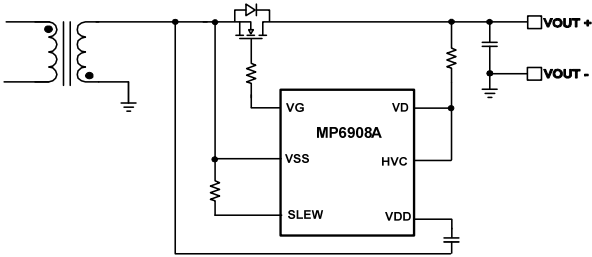
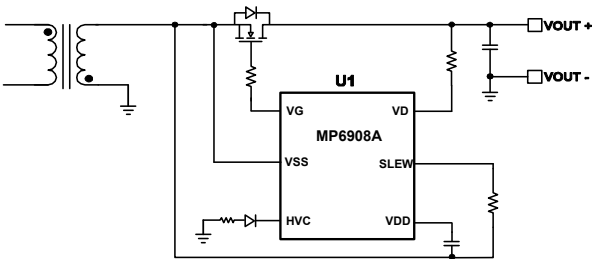
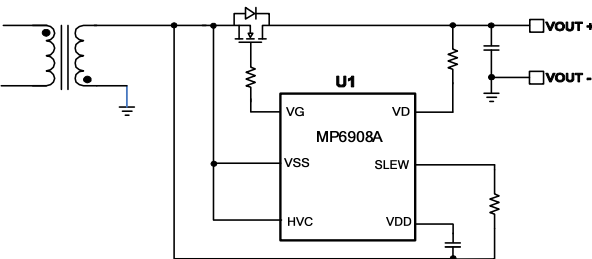

Figure 6: High-Side Rectification, VDD Regulated at 9V
Figure 7: High-Side Rectification, VDD Regulated at 9V
Figure 8: High-Side Rectification, VDD Regulated at 5V
If the MP6908A is used for high-side rectification, a self-supply can be achieved three ways (see Figure 6, Figure 7, and Figure 8).
Figure 6 shows HVC connected to VD. Here, VDD is generated and regulated at 9V.
Figure 7 shows HVC connected to the secondary ground through an external diode. Here, VDD is generated from HVC and regulated at 9V. The maximum voltage at HVC can be calculated with Equation (2):
Figure 8 shows HVC shorted to VSS. VDD is generated by V_{DS} and regulated at 5V.